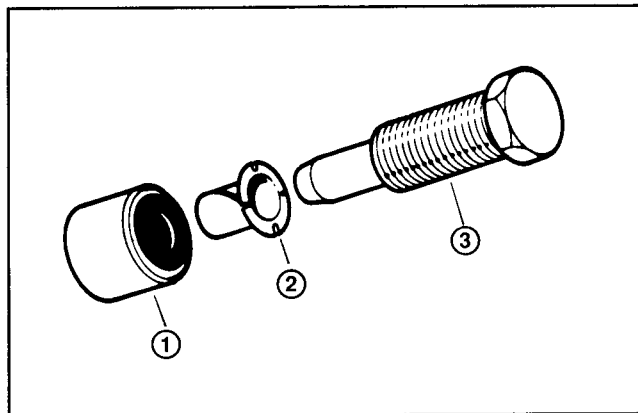

Figure 25
8. Check size of hole in bedbar end bushings every time bedbar is removed. Insert flange bushing into rubber bushing (Fig. 25). Insert clean shoulder bolt into flange bushing/rubber bushing assembly. If bolt slides easily into bushing, replace all four bedbar bushings. (See Bedbar Bushing Replacement in this section of the book.)